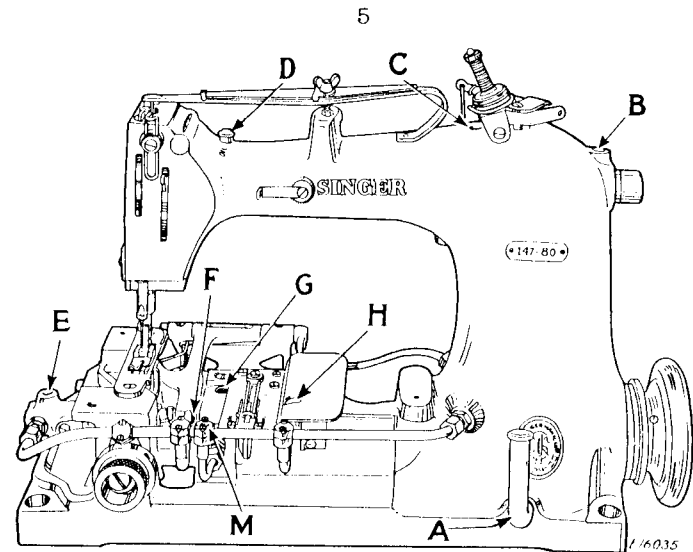
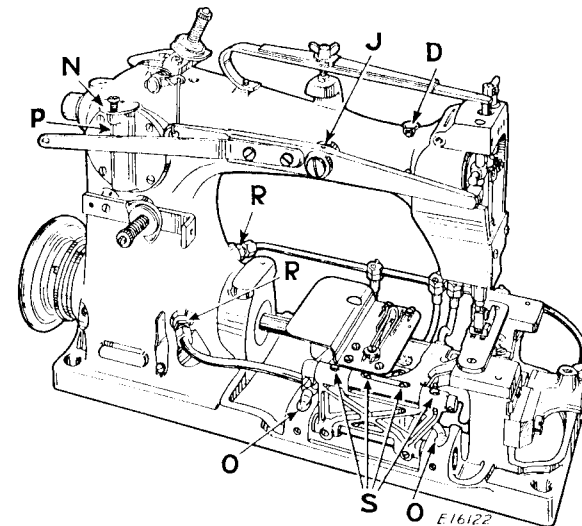

Fig. 2. Priming and Oiling Points at Front Side of Machine
Fig. 3. Priming and Oiling Points at Rear Side of Machine
1st. Turn aside the cover (N, Fig. 3) and pour oil through the filler (P) until it reaches the oil level mark on the gauge in tube (A, Fig. 2). The oil in this tube indicates the oil level in the reservoir.
2nd. Prime the wicks at (O, Fig. 3) and at (C, B, H, G, F and E, Fig. 2) by filling the troughs with oil. When the machine is in daily use, no further hand oiling is required at these points as sufficient oil is supplied by the automatic lubricating system.
3rd. Fill oil holes at (S, Fig. 3) and at (D, Fig. 2).
4th. Apply a drop of oil at (J, Fig. 3).
5th. Fill the main oil pipe to **OVERFLOWING** through the oil hole at (M, Fig. 2).
1st. Check the oil level in the reservoir and, if low, add enough oil to bring it to the mark on the gauge in tube (A, Fig. 2). Never allow the oil in the reservoir to go more than 1/4 inch below the mark on the gauge.
2nd. Fill oil cup (D, Fig. 2) **LEVEL FULL** twice daily or as required.
3rd. Apply oil twice daily, or as required, to (S, Fig. 3).
The letter "O" marked on oil pipe couplings (R, Fig. 3) must always be at the top. This is to insure that the oil spoon, attached to the inner end of the coupling, is open side up.